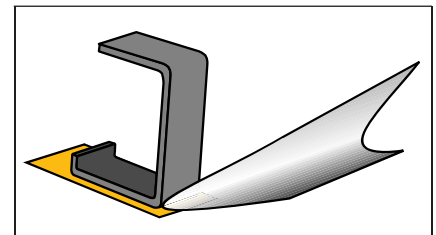

Figure 3 Tip in Contact with Heel
7. Bring the tip in at a 45° angle in relation to the row of leads. The tip will make contact with the leads and lands where they meet. (See Figure 3.)